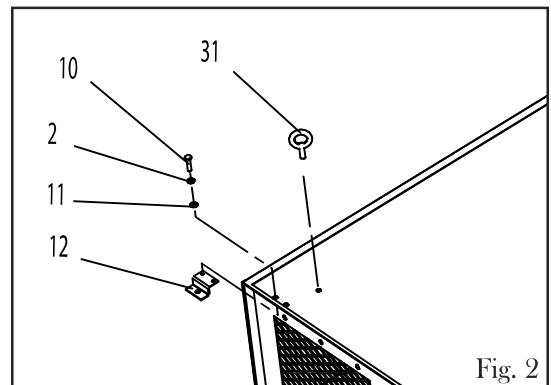

Fig. 2
INSTALLING THE HANGERS (Fig. 2)
Thread a mounting hanger (Fig. 2 - 31) into a mounting hole on the top of the air filter cabinet. Rotate the hanger clockwise to fully tighten it into the hole. Repeat for all four hangers.
INSTALLING THE BRACKETS (Fig. 2)
Attach the mounting bracket (Fig. 2 - 12) using two M6 x 4.8 bolts (Fig. 2 - 10), two M6 lock washers (Fig. 2 - 2) and two M6 flat washers (Fig. 2 - 11). Tighten bolts securely using an M10 socket or wrench (not included). Repeat for all four mounting brackets.
1. Install the wood screw hooks (Fig. 2 - 1) into the building support structure. **NOTE:** Wood screw hooks and chains used for ceiling mounting are not included. Make sure to use chain and hooks that are properly rated for hanging this unit.
2. Place a chain (Fig. 2 - 2) on each wood screw hook.
3. Attach the chain onto the mounting hangers (Fig. 2 - 3). The four mounting brackets can also be used for mounting the unit onto the ceiling or wall.